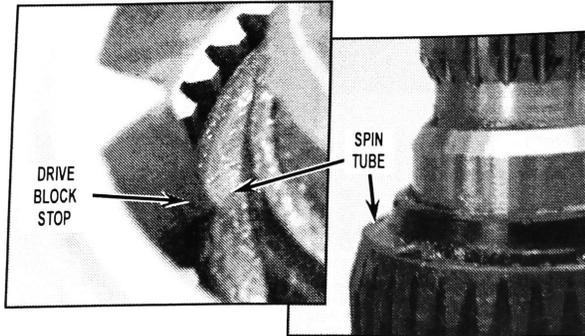

FIGURE 5
6. Install new drive block onto spin tube. The drive block should be fully seated on the spin tube with the stops resting on the top of the spin tube. See *Figure 5*.